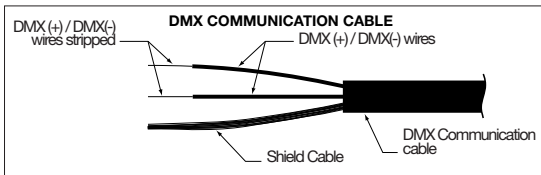

FIGURE 3d
4. Locate the actual shield “cable” within the overall “shield” (see FIGURE 3d) and separate it from the individual shield wires. Carefully cut off and remove the shield wires but NOT the small shield cable (see FIGURE 3d).